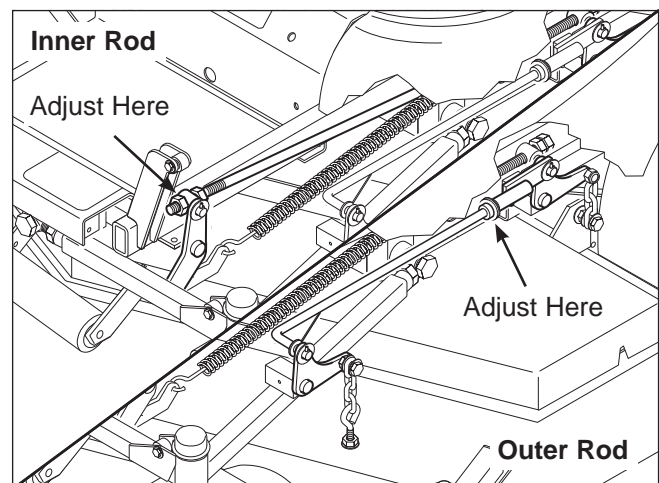

Figure 42. Adjust the Inner & Outer Lift Rods
8. Refer to Figure 42. To adjust the inner lift rod, adjust the 5/8" hex nuts on either side of the front lift pivot until the measurements are equal. Repeat for other side.
9. Refer to Figure 42. To adjust the outer lift rod, remove the coil pins securing the outer lift rod to the lift levers. Remove the outer lift rod from the unit and add or remove 5/8" SAE washers from in between the deck lift rod and the lift link until measurements are equal. Reinstall the coil pins and washer (on front lift lever). Repeat for other side.